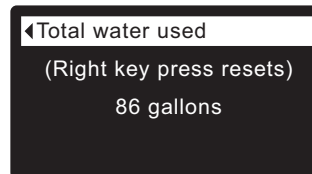

FIG. 71
6. The **Total water used** screen (See Figure 71) shows the volume of water used since it was last reset (it works like the trip odometer in a car). To reset the value to 0, press the RIGHT (►) button while this screen is displayed.